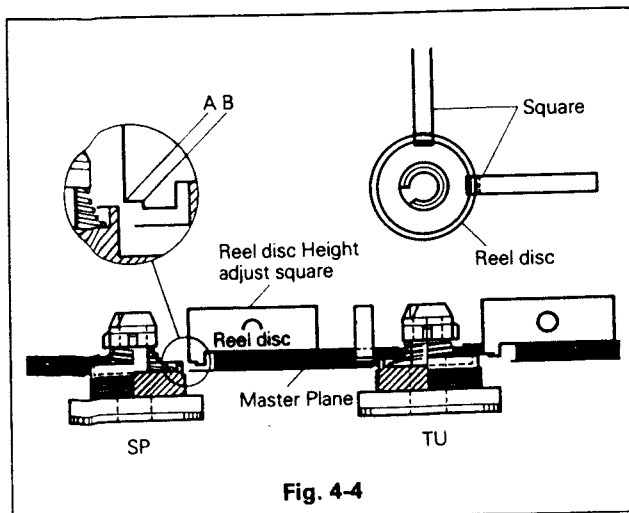

Fig. 4-4
- Examine the height of the reel disc with the "Height Adjust" square as illustrated in Fig. 4-4. The reel disc height should be between levels A & B of the square as illustrated.